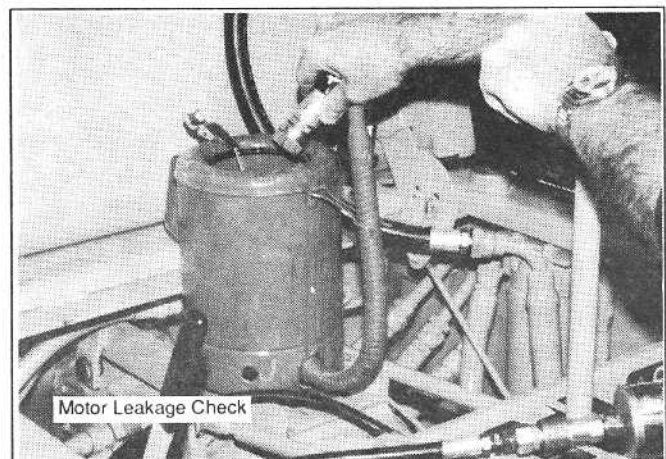

Figure 5-4
5. If the pump checks okay, reconnect one of the high pressure lines to the hydraulic motor. Stroke the pump (T-Bar) to pressure the connected line. Observe the oil coming from the open motor port. This is oil bypassing internal motor components and not driving the wheels. A large amount of oil bypassing internally will cause severe lack of drive power. (See figure 5-4)